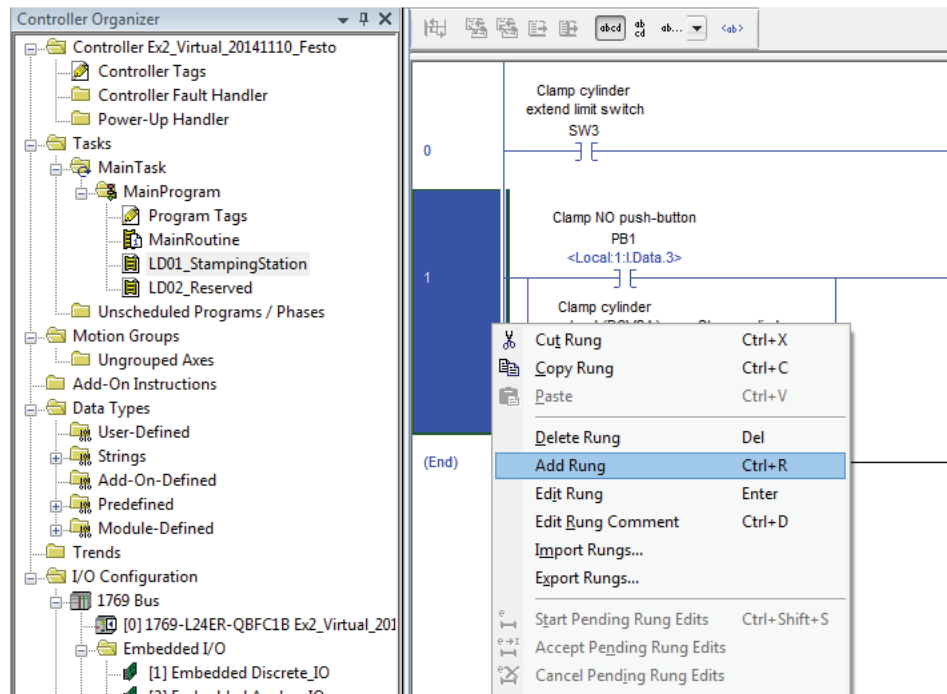

Figure 107. Adding a rung (right-click).
18. Insert another rung. This time, right-click the existing rung 1 and select *Add Rung* (Figure 107).